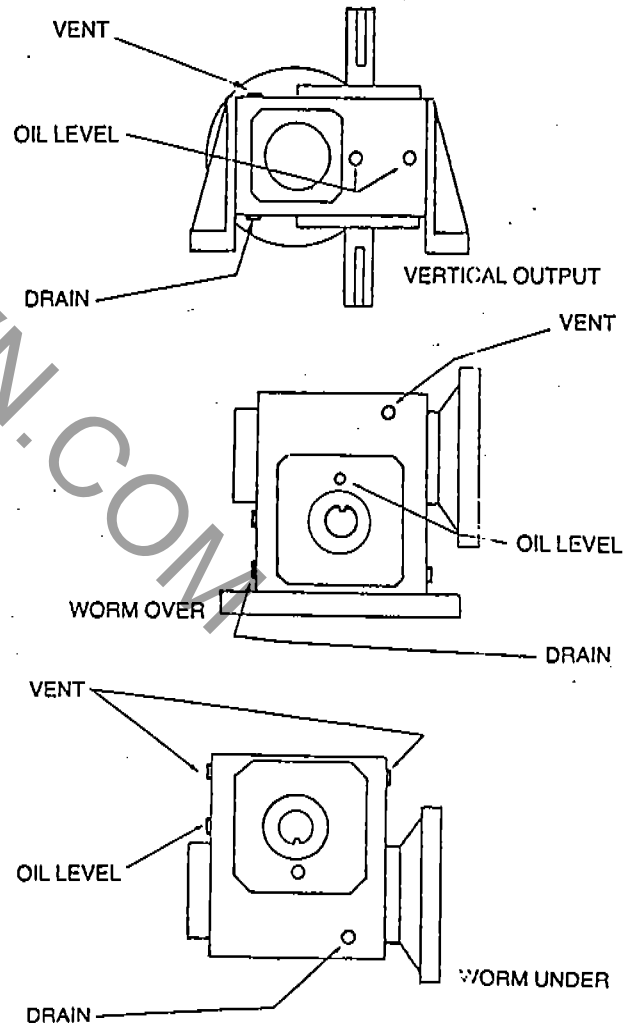
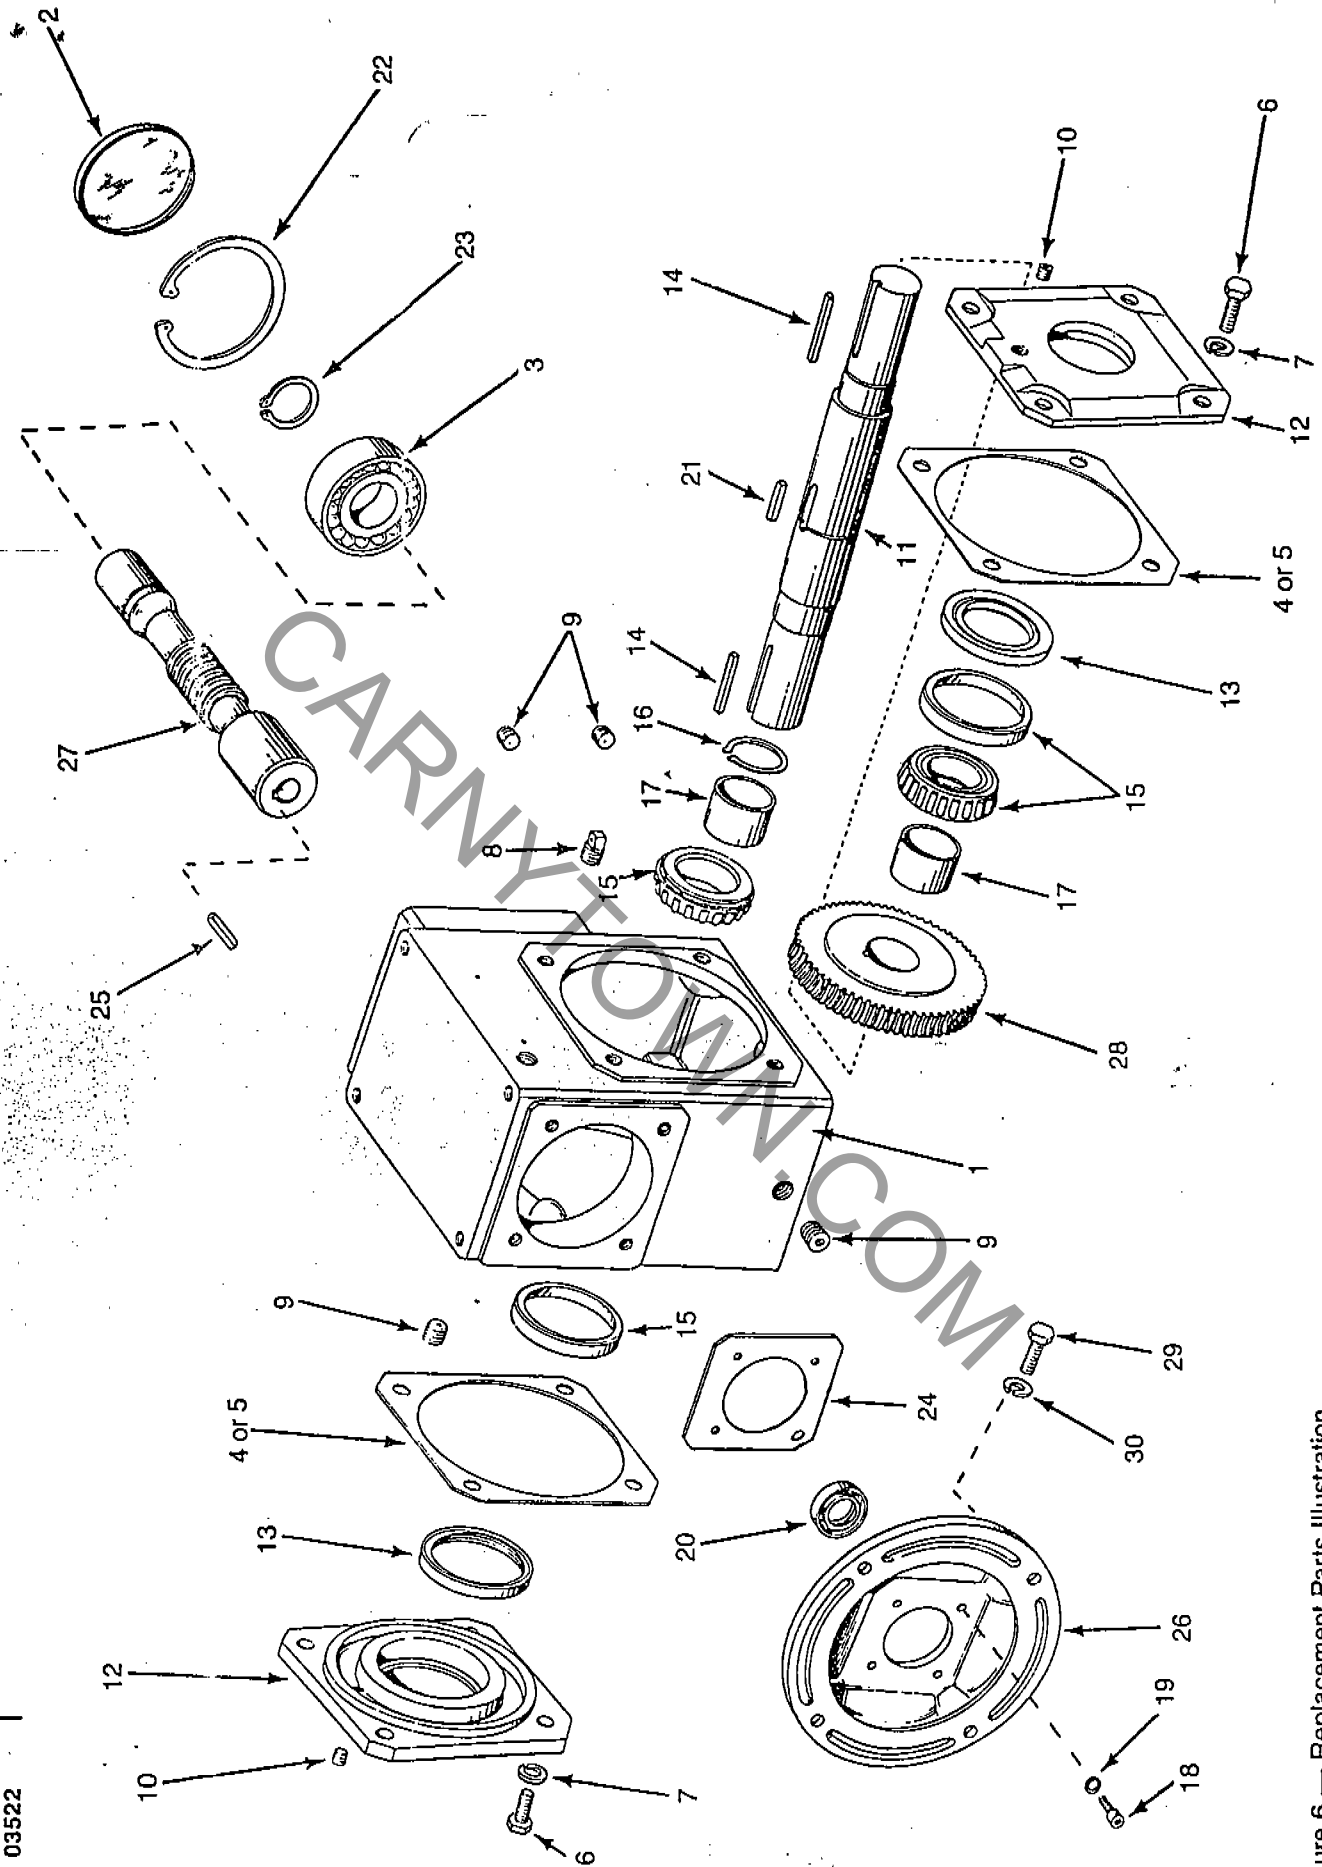

Figure 5 — Location of Vent, Oil Level, and Drain Plugs for Each Reducer Mounting Position
Figure 6 — Replacement Parts Illustration.
3. There are 6 pipe plugs and 1 vent plug on the reducer. (See Figure 6, Ref. Nos. 8, 9 & 10.) Check the positions of the vent plug and pipe plugs after the reducer is installed. The vent plug should be the uppermost (highest) of the group. If it is not, interchange the vent plug with the pipe plug which is in the uppermost position. (See Figure 5.)
h. Before running a new reducer for the first time after it has been installed, check it for vent plug location and proper oil level. Figure 5 illustrates the correct vent, oil level, and drain plug locations for the three reducer mounting positions. Interchange positions of plugs on reducer, if necessary. The oil level in the reducer should be at oil level plug height. Add or drain off oil if necessary.
The speed reducer was filled with AGMA #8 gear lube oil at the factory. Check the oil level after installing the reducer, making sure it is correct for the reducer mounting position before running the reducer. (See Figure 5, on page 3. The oil level should be at oil level plug height.) If the level is low, drain the remaining oil, then refill the reducer to the correct level — do not mix brands of oil.
To prevent seal damage and gear misalignment when replacing the oil seal, proceed as follows (see Figure 6):